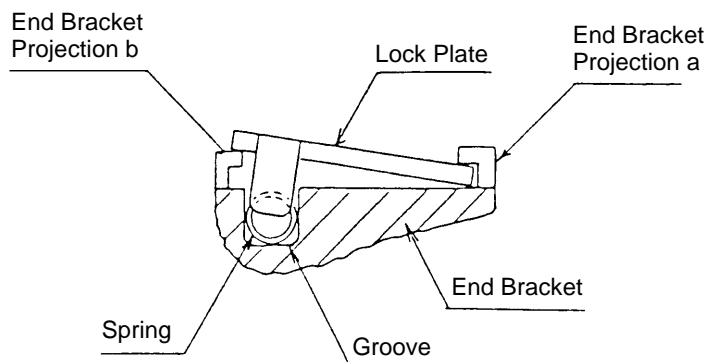

Fig. 18
(1) Reassembly of the Lock Plate (58):
- (a) Insert the Spring (57) into the groove on the End Bracket (41).
- (b) As illustrated in Fig. 18, insert the Lock Plate (58) under projection a of the End Bracket (41). Then, compress the Spring (57) while pushing the opposite end of the Lock Plate (58) under projection b of the End Bracket (41).